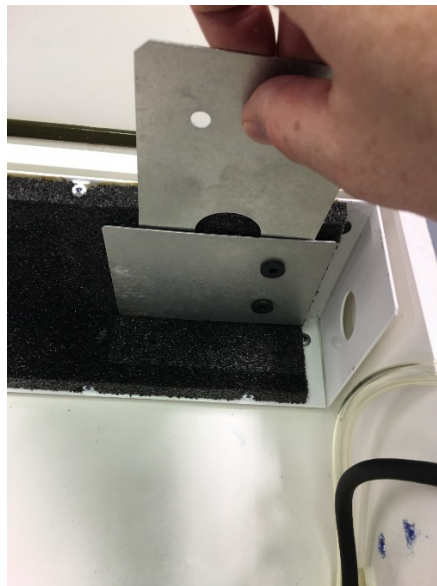

FIGURE H-5. Removal of original pump module inner plate and replacement with new inner plate provided in pump replacement kit (pn 33241)
6. Using the “notched” end of the new inner plate, slowly pry away the original inner plate working around all sides and being careful not to damage the foam backing (FIGURE H-5).